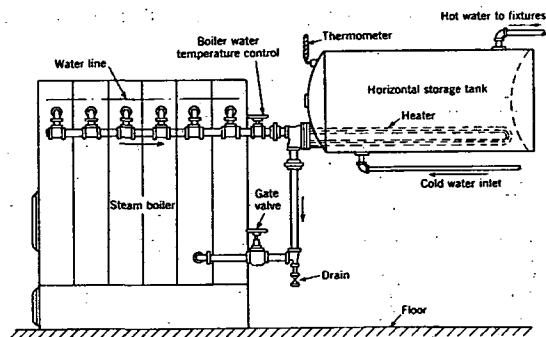

FIG. 8. WATER HEATING COIL SUBMERGED IN STORAGE TANK
2. Submerged water heating coil in storage tank. (Fig. 8).
Pipe sizes between the water heater and boiler should be full size of the heater tapings (Table 12). When a heater is connected to a horizontal sectional boiler, it is recommended that connections be made to all sections and joined together a few inches below the water line as shown in Fig. 8, so that steaming is prevented in those sections which are not connected to the header.